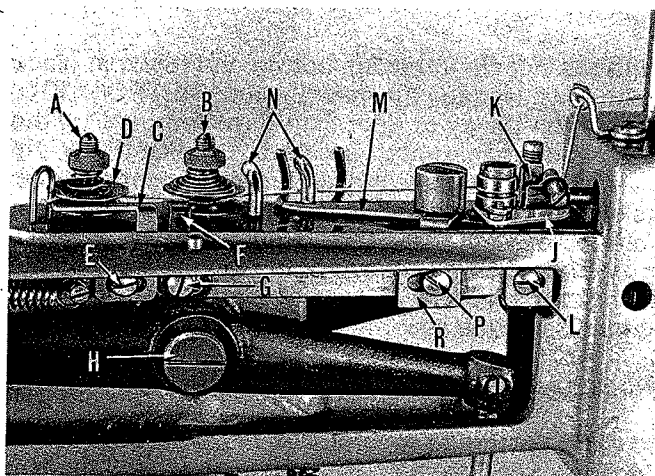
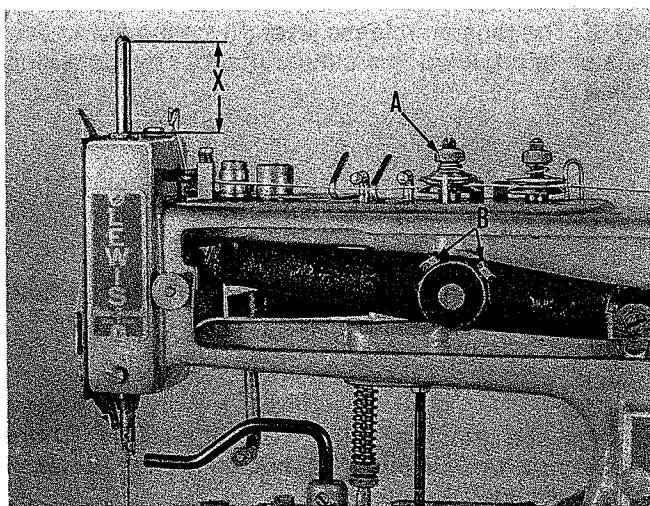

Fig. 28
Fig. 29
The main thread tension (A, Fig. 28) located behind the automatic tension (B) determines how tight the button is sewn. The amount of tension applied to the thread will vary relative to the type of thread, material and the thickness of the button used. Normally, only a light tension is required.
Thread the machine according to the Threading Diagram. Engage the machine into RUN POSITION and rotate the pulley two complete revolutions in operating direction. The tension release lever (C, Fig. 28) should be located as close as possible to the tension discs (D) of the main tension assembly (A) without making contact.
The thread nipper (J, Fig. 28) should pinch and hold the thread tight while it is being cut.
At the end of the stitching cycle, the thread pull-off lever (M, Fig. 28) should pull enough additional thread from the spool to form the first stitch of the next cycle.
Engage the machine into RUN POSITION and pull the thread taut against the thread guides (N, Fig. 28). The pull-off lever (M) should not contact the thread. Turn power "ON" and sew several buttons on scrap material. The pull-off lever is set correctly when a length of thread $1/4$ inch (6.3 mm) to $3/8$ inch (9.5 mm) remains on the underside of the fabric at the right hole of a two hole button; or the right rear hole of a four hole button.
Turn the tension nut (A, Fig. 29) down four or five turns. The automatic tension should release the thread when the needle bar, on its upstroke, has risen so that the lower edge of the beveled top is DIMENSION "X" (Fig. 29) above the upper needle bar bushing. DIMENSION "X" is determined by the length of the needle used as follows:
Rotate the pulley in operating direction so that the needle bar has risen to correspond to the proper DIMENSION "X". Loosen the two hexagonal head screws (B, Fig. 29) in the needle lever hub and rotate the shaft (H, Fig. 28) until the upper tension disc begins to rise. Tighten screws (B, Fig. 29).
NOTE: This is an extremely important adjustment and should be re-checked. If large loops exist on the underside of the fabric apply more tension by turning nut (A, Fig. 29) down.